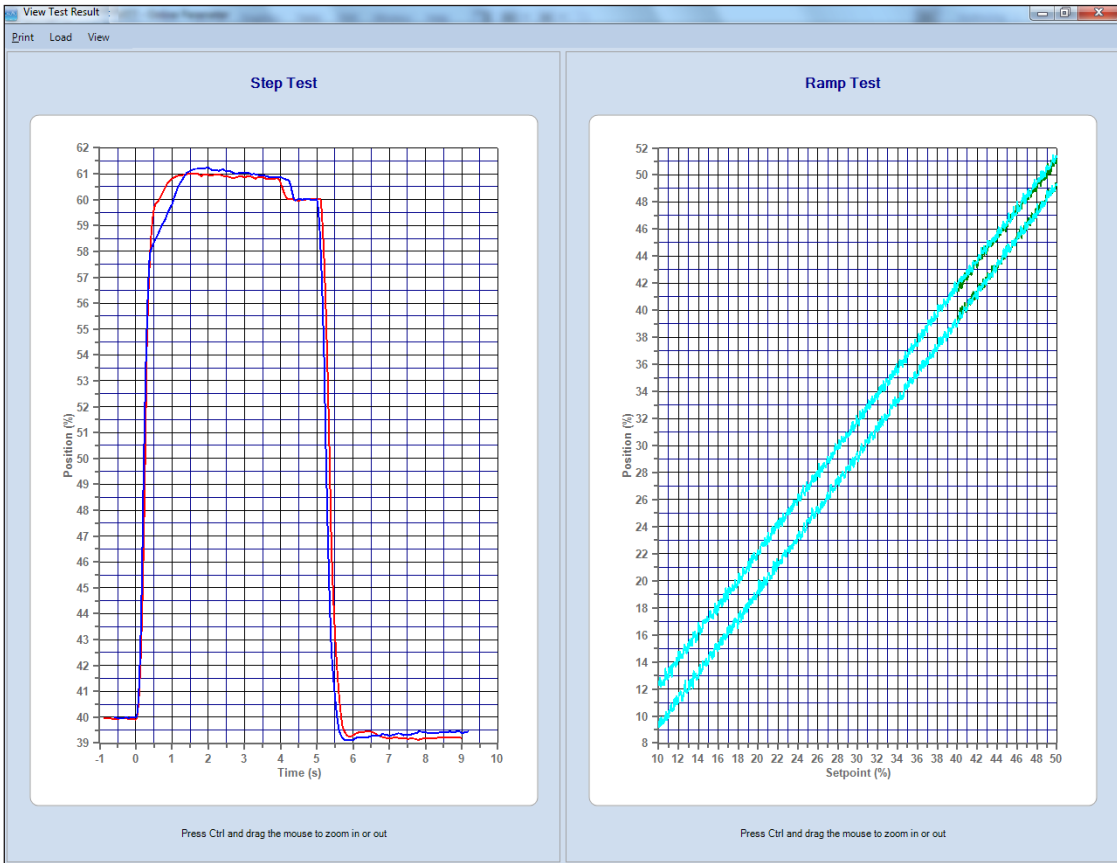

Figure 121 - View Signature Data
- Select a signature or multiple signatures, click  and Figure 121 appears.